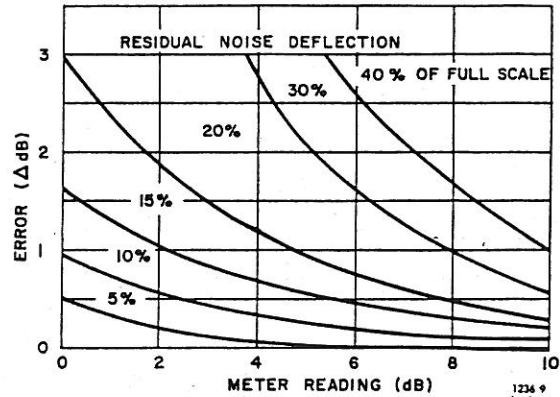

Figure 3-3. Curves showing meter error caused by residual meter deflection due to noise. Corrected reading = meter reading  $-\Delta$  dB.
When the ATTENUATION control is set at -10 dB, residual meter deflection (due to noise) will result. The noise level depends upon the setting of the GAIN control and on the source impedance. If signal levels are to be measured at the -10 dB ATTENUATION setting, the meter readings must be corrected for residual noise. As the plot in Figure 3-3 shows, the error increases with either a decrease in signal level or an increase in residual noise. Correct the meter reading as follows:
- Record the error ( $\Delta$  dB) taken from Figure 3-3.